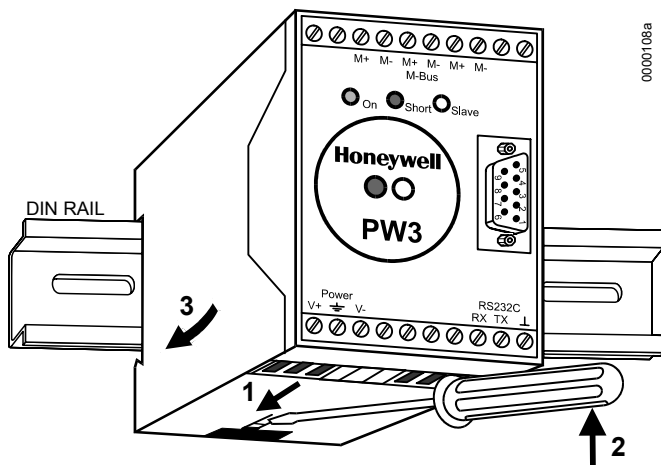

Fig. 41. Mounting of PW3
1. Install PW3 Meter-Bus Adapter on DIN rail. Insert a screwdriver into the slot in the DIN rail clamp on the underside of the PW3 and pry downward to loosen clamp until the unit snaps onto the rail. See Fig. 41.